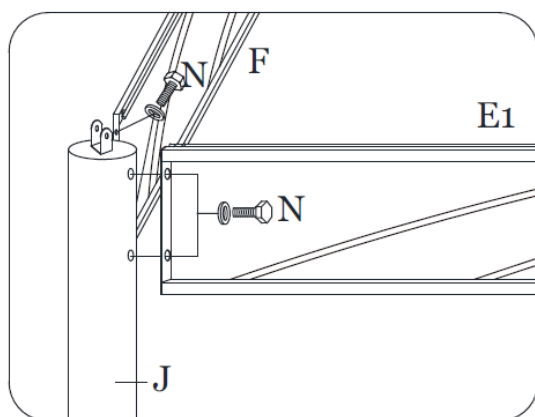

Figure 5
Step 3: Attach the 2 Assembled Short Cross-Beams (E1 and E2) and Long Cross-Beams (F) to the Corner Posts (J) with Bolt & Washer (N). See Figure 5.